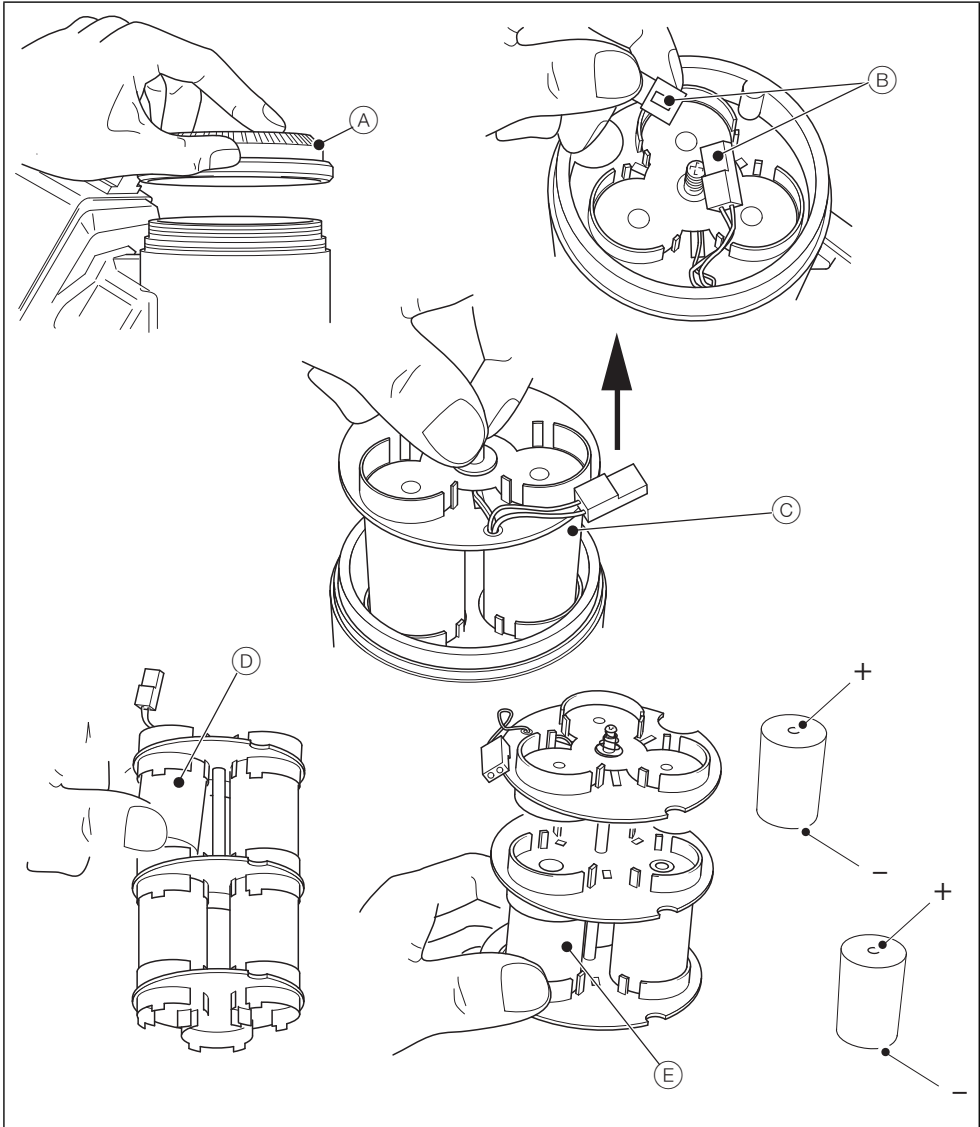

Fig. 3.11 Internal Battery Pack (Integral Transmitters Only)
Referring to Fig. 3.11:
1. Remove enclosure lid (A).
3. Disconnect battery connector (B).
4. Carefully remove battery pack (C) from enclosure.
5. Carefully remove 3 cells (D) in turn from the top level of the pack.
6. Carefully remove 3 cells (E) in turn from the bottom level of the pack.
7. Fit 3 new cells to the bottom level of the pack, ensuring the correct polarity, as shown in Fig. 3.11, page 24.
9. Carefully refit battery pack (C) to enclosure.
10. Reconnect battery connector (B).
12. Ensuring O-ring seal and O-ring groove is clean, refit enclosure lid (A) and tighten finger-tight.